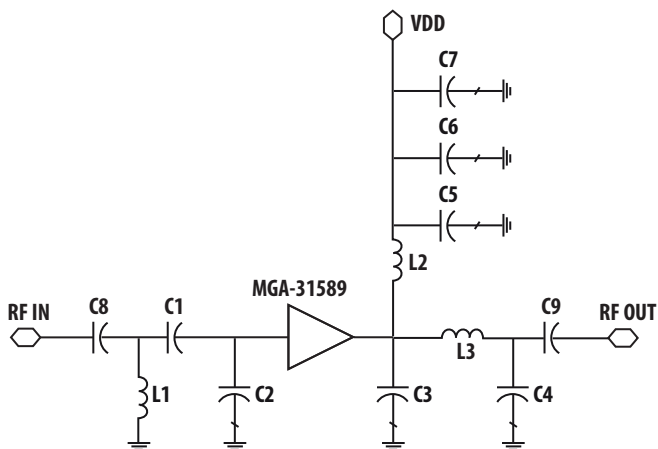

Figure 27. Circuit diagram
1. Measurements obtained from a test circuit described in Figure 27.